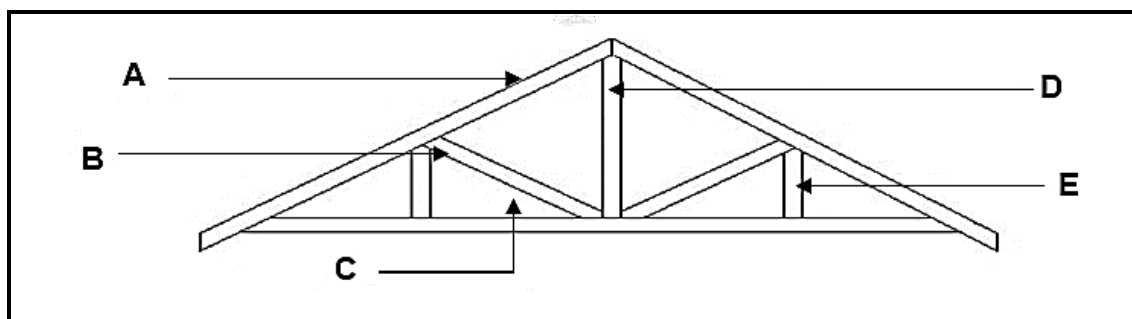

FIGURE 3.1
3.1 Answer the following questions with regard to the roof truss in FIGURE 3.1.
- 3.1.3 What are the measurements of the timber used in FIGURE 3.1? (2 x 1) (2)